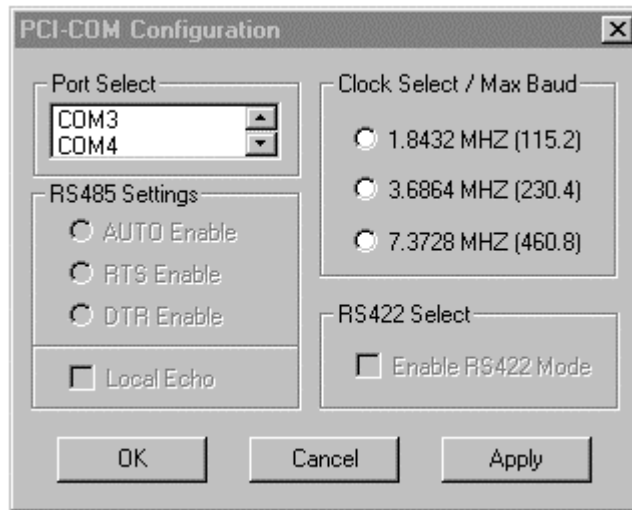

Figure 2-3. PCI-COM232 Windows NT Control Panel Configuration
- Select the desired UART clock rate from the radio buttons as shown in Figure 2-3: